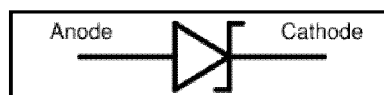

Fig: 2.8: Symbolic representation of Zener diode
- The commonly used schematic symbol for Zener diode is shown in Fig.2.8.